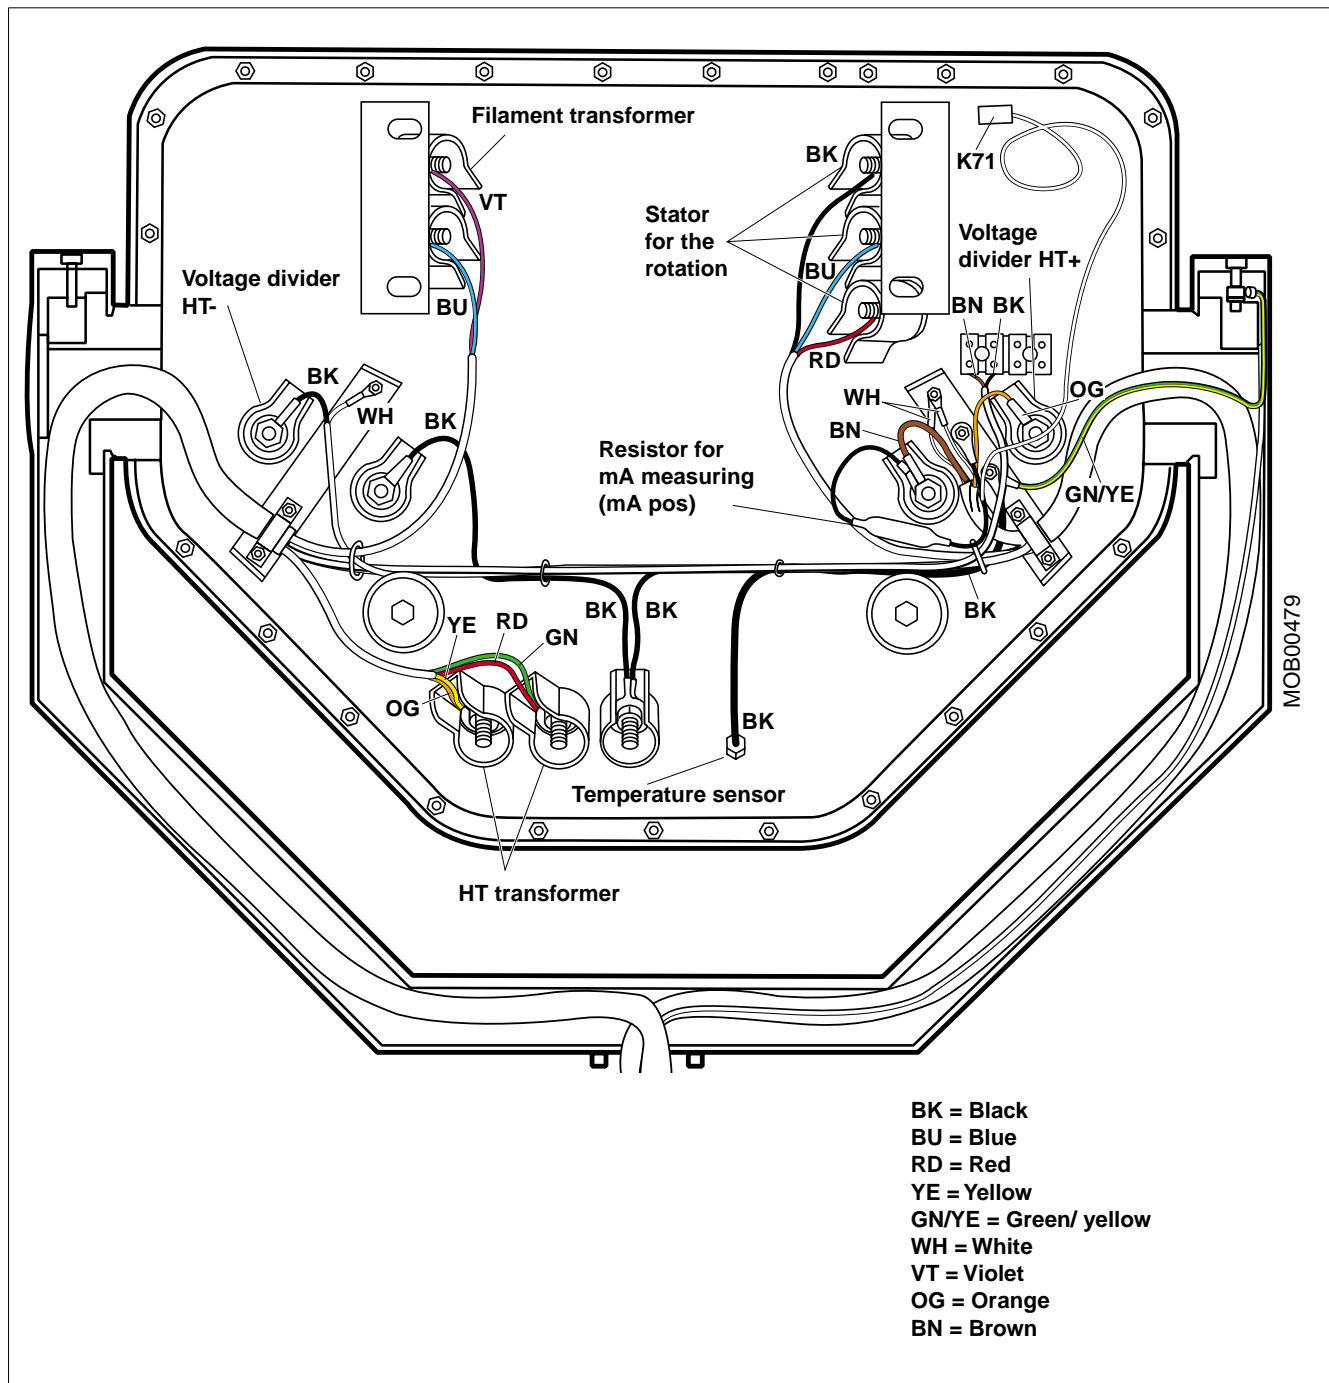

Fig. 18
- Reconnect all electrical connections according to (Fig. 18).